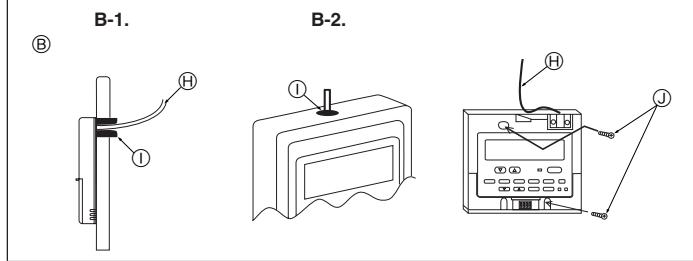

Fig. 7-3
(2) Seal the service entrance for the remote controller cord with putty to prevent possible invasion of dew drops, water, cockroaches or worms. (Fig. 7-3)